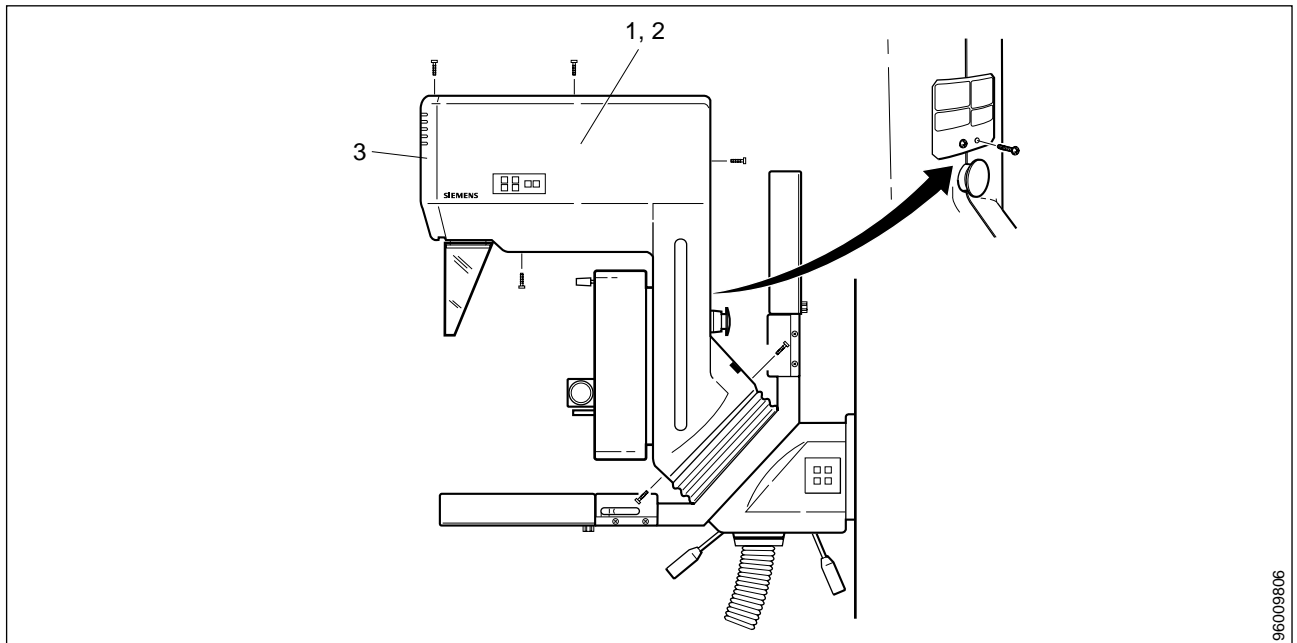

Fig. 1 Removal of tube head covers
2. Remove the tube head covers; left (1/Fig. 1), right (2/Fig. 1) and front (3/Fig. 1) side.